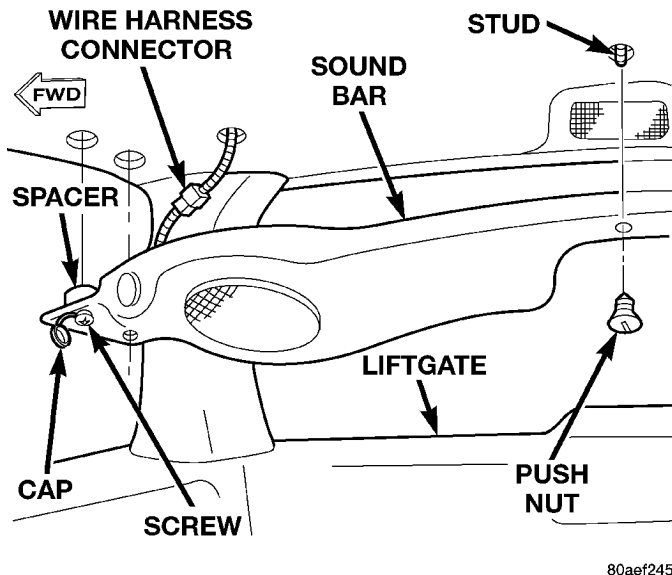

Fig. 16 Sound Bar Remove/Install
- (1) Disconnect and isolate the battery negative cable.
- (2) Gently pry at the perimeter edges of each of the two snap-fit screw covers located on each end of the sound bar to uncover the screw heads (Fig. 16).